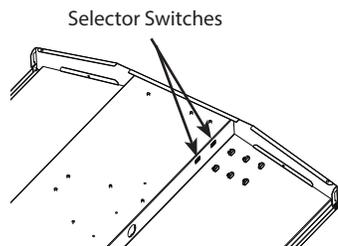

Fig. 4
1. Locate the **Selector Switches** on the side of the driver as shown in Fig 4.